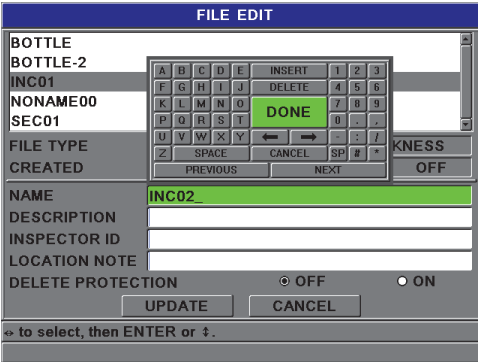

Figure 7-11 Entering new file information
2. In the **FILE EDIT** screen (see Figure 7-11 on page 126), select the desired file in the list.